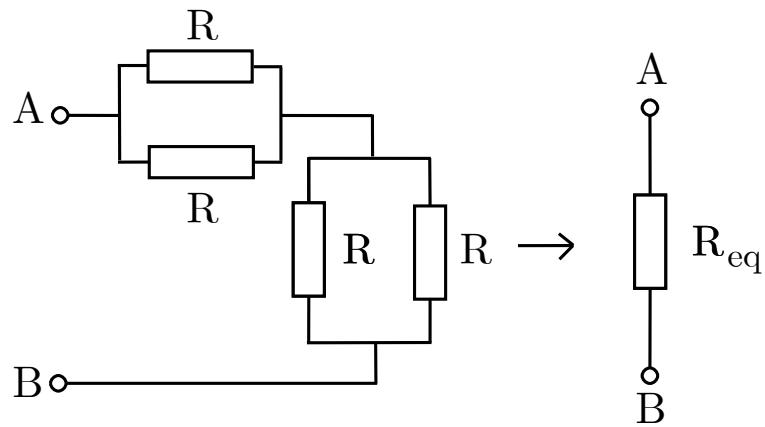

Figure 1.6: Equivalent resistance of resistors in series and parallel.
4. Taking into account the above questions, calculate  $R_{eq}$  in Figure 1.6.